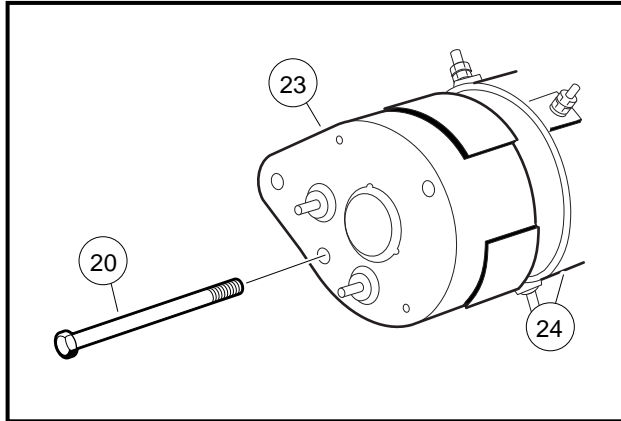

Figure 12-3 Commutator End Cover
1. Remove the two bolts (20) and pull commutator end cover (23) free of starter/generator housing (24) (Figure 12-3, Page 12-4). See following NOTE.
3. Install the commutator end cover (23) onto the armature shaft. Align the locating pin with the pin hole in the cover. Install two M6 x 180 mm bolts (20), and tighten to 100 in-lb (11.3 N-m) (**Figure 12-3, Page 12-4**).
2. Remove the two bolts (20), and pull commutator end cover (23) free of the starter/generator housing (24) (**Figure 12-3, Page 12-4**).
9. Install the commutator end cover (23) onto the armature shaft. Align the locating pin with the pin hole in the cover. Install the two M6 x 180 mm bolts (20), and tighten to 100 in-lb (11.3 N·m) **(Figure 12-3, Page 12-4)**.